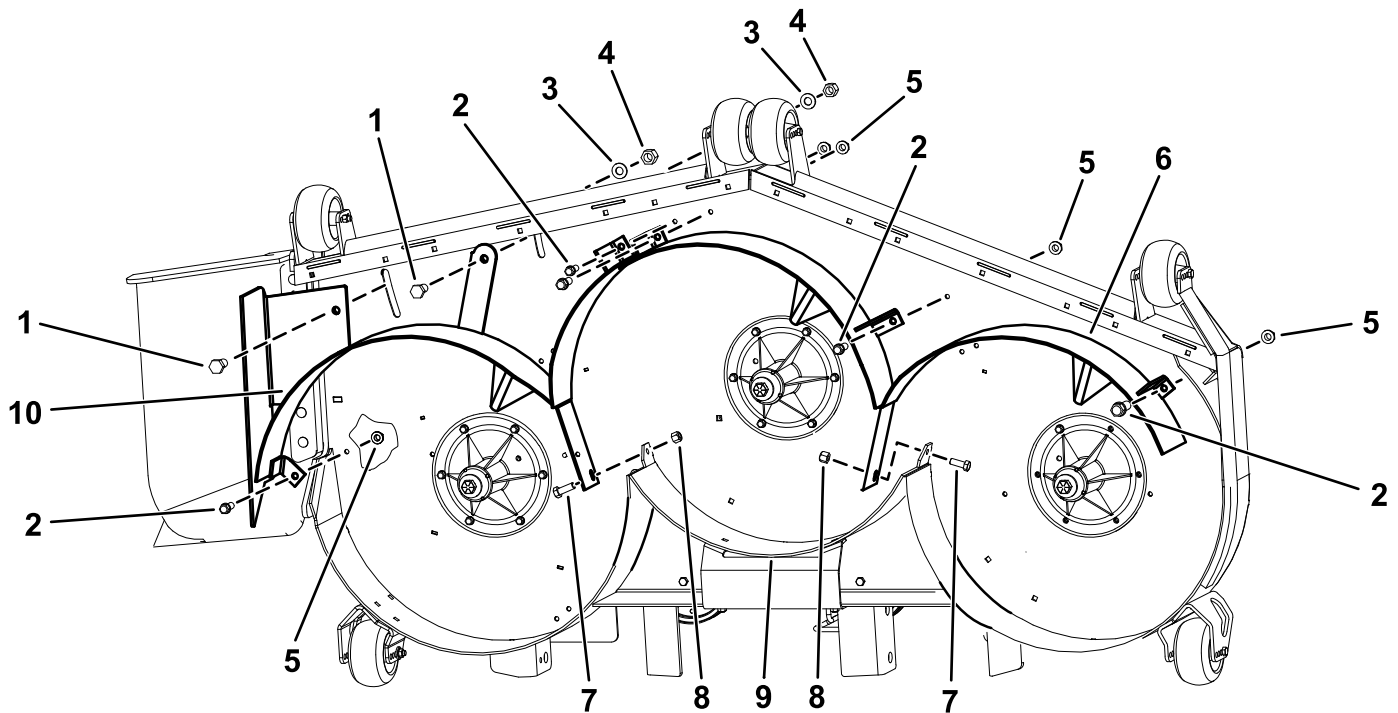

Figure 4
1. Install the right baffle into the deck (Figure 4).
2. Loosely secure the right baffle to the top of the deck using 2 bolts (1/2 x 1 inch), 2 tapping bolts (3/8 x 1 inch), 2 nuts (1/2 inch), 2 washers (1/2 inch), and 2 flange nuts (3/8 inch) as shown in Figure 4.
3. Loosely secure the right baffle to the rear baffle using 1 bolt (3/8 x 1 inch) and 1 nut (3/8 inch) as shown in Figure 4.
4. Install the left baffle into the deck (Figure 4).
5. Loosely secure the left baffle to the top of the deck using 3 tapping bolts (3/8 x 1 inch) and 3 flange nuts (3/8 inch) as shown in Figure 4.
6. Loosely secure the left baffle to the rear baffle using 1 bolt (3/8 x 1 inch) and 1 nut (3/8 inch) as shown in Figure 4.